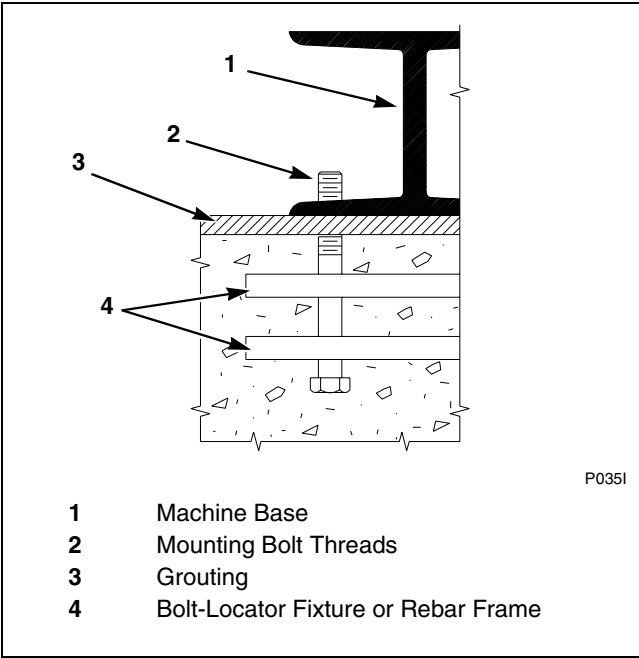

Figure 2
**NOTE: For 80 and 125 pound models, a bolt-locator fixture or rebar frame is available as an option. This is designed to be embedded in concrete. Refer to *Figure 2*.**